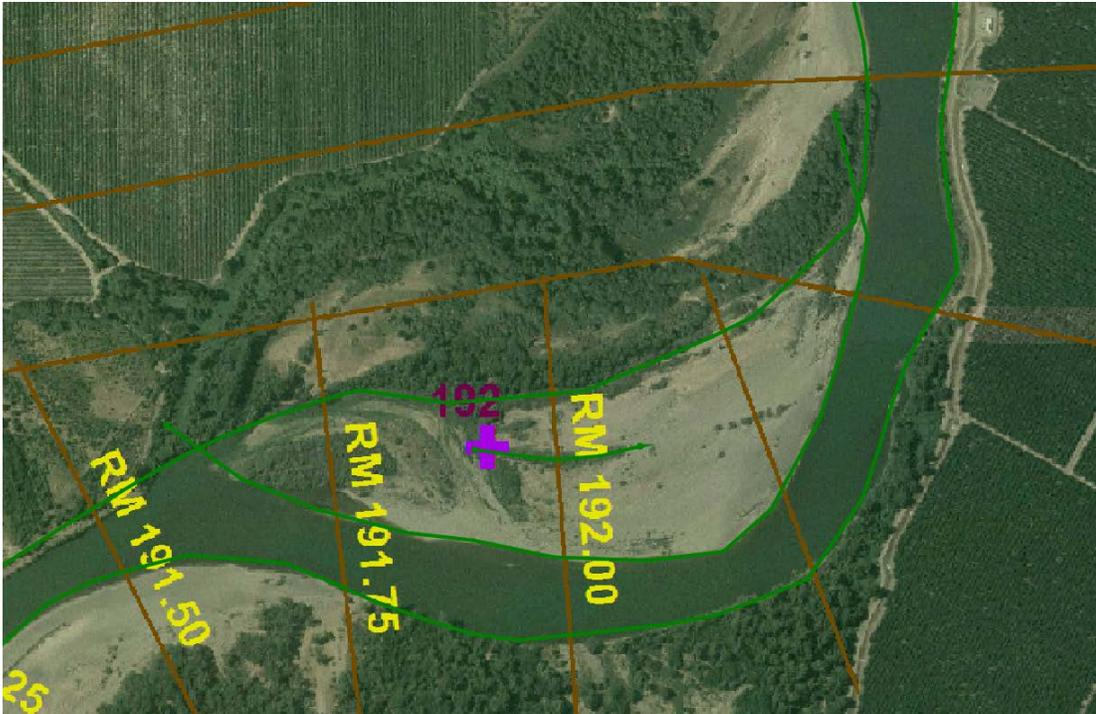

Figure 5-10. Added lines near the sand bar.
Step 2: Go to Geometry Module, click the add button **+** in the Geometry Module toolbar to add two lines: one along the channel near the point bar, one by the vegetation (Figure 5-10).